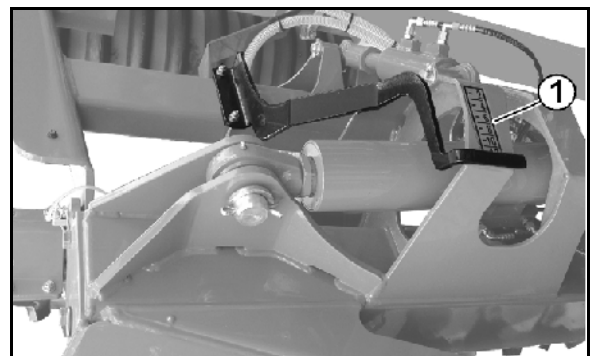

Fig. 35
- Check the set working depth using the scale (Fig. 35/1) mounted on the side frame.